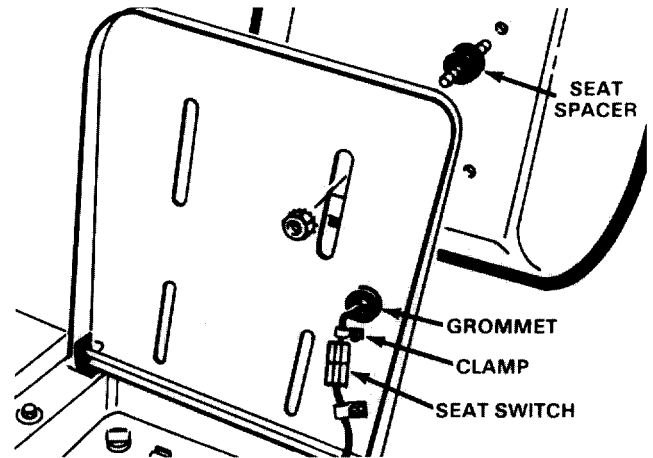

Figure 3
2. Thread (4) seat spacers into bottom of seat (Fig. 3).
3. Insert carriage bolt into square hole next to grommet in plate (Fig. 3).
5. Secure seat to mounting plate with (4) locknuts.
6. Insert seat switch connector into wire harness connector (Fig. 3).
7. Install clamp around seat switch wire and over carriage bolt. Secure clamp to carriage bolt with locknut (Fig. 3).